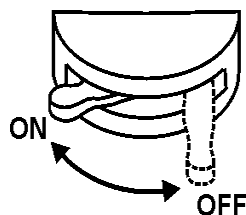

Figure 35. Battery ON/OFF Switch
5. Set the battery ON/OFF switch (Figure 35) to the ON position.